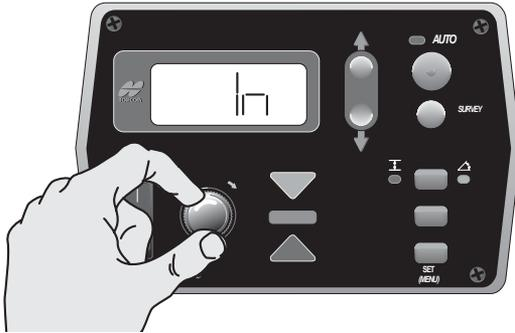

Figure 4-23. View Menu Options
- Turn the Grade Adjustment Knob to view the options available for the Menu selection (Figure 4-23).